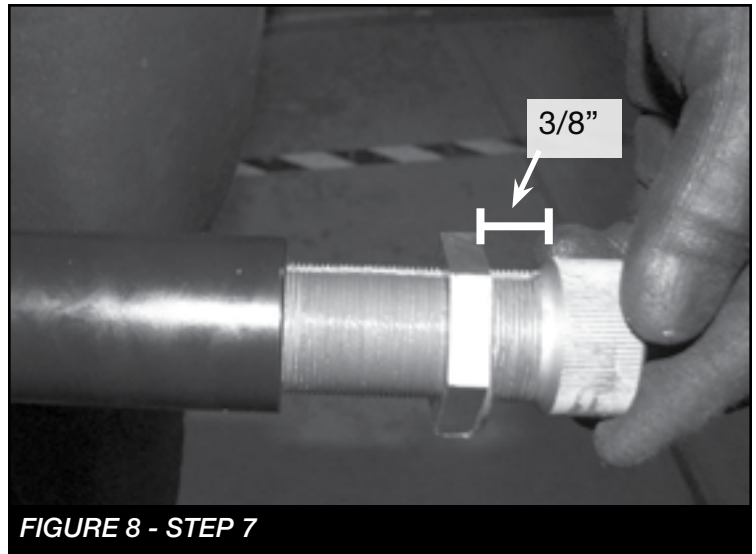

**FIGURE 6 - STEP 6**
6. Remove the collar from the rod end. The ear on the threaded end will need to be cut off flush. **SEE FIGURE 6**